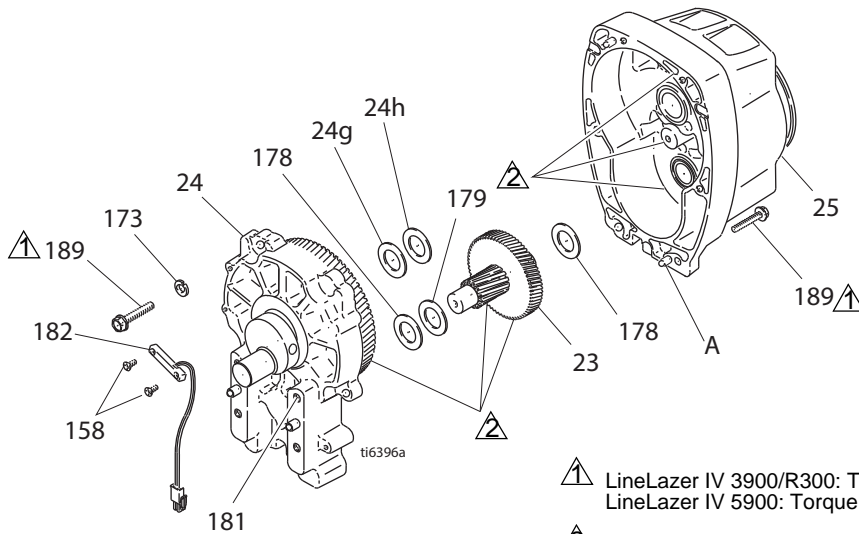

Fig. 3
- 2 Fig. 3. Remove bearing housing. Refer to **Bearing Housing and Connecting Rod** procedure on page 11.
- 3 Remove two screws (158) and reed switch (182).
- 4 Remove six screws (189) and reed switch (25).
- 5 Lightly tap around drive housing (24) to loosen drive housing. Pull drive housing straight off pinion housing. Be prepared to support gear cluster (23), which may also come out.
- 1 Liberally apply bearing grease (supplied with replacement gear cluster) to gear cluster (23) and to areas called out by reference 2 in Fig. 3.
- 2 Place bronze colored washer (24g) on shaft protruding from large shaft of drive housing (24). Place silver colored washer (24h) on pinion housing. Clean mating surfaces of pinion and drive housings. Align gears and push new drive housing straight onto pinion housing and locating pins (A).
- 3 Install six screws (189). Torque evenly, referencing note 1 value in Fig. 3.
- 4 Install reed switch (182) with two screws (158).